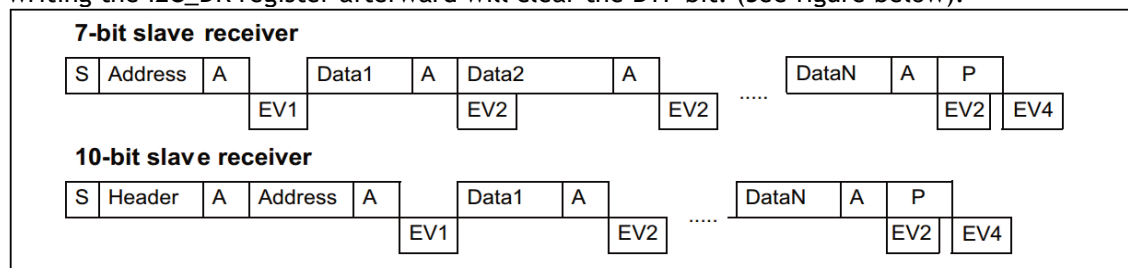
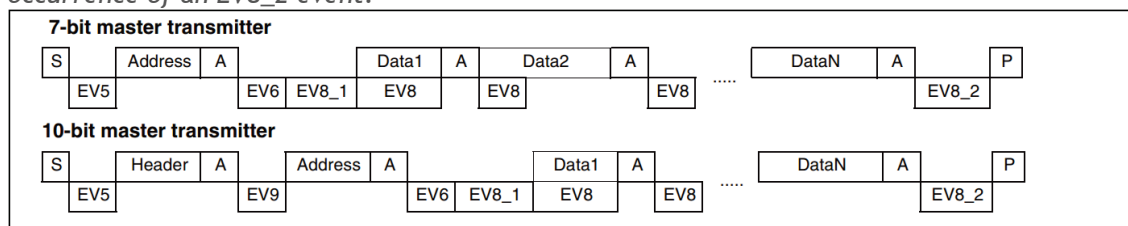
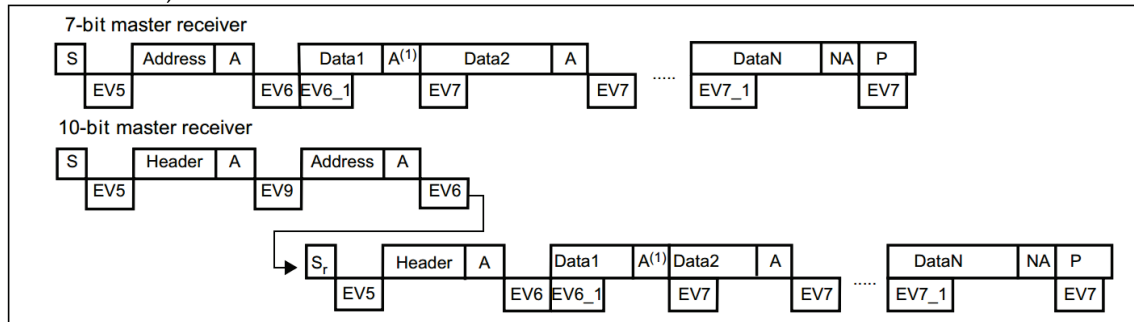

Figure244 Transmission Sequence Diagram from Receiver
Figure 245 Master Transmitter Transmission Sequence Diagram
Figure 246 Master Receiver Transmission Sequence Diagram
- The master device then waits to read the SR1 register, followed immediately by writing the slave address to the DR register (see EV5 of Figure 244 and Figure 245).
- The master device then waits to read the SR1 register before writing the second address byte to the DR register (see Figure 245 and Figure 246).
The master device then waits for one read of the SR1 register, followed by a read of the SR2 register (see Figure 245 and Figure 246).
- The master device then waits for one read of the SR1 register, followed by a read of the SR2 register (see Figure 245 and Figure 246).
The master device waits until TxE is cleared, (see EV8 of Figure 245). When an answer pulse is received.
After writing the last byte in the DR register, a stop condition is generated by setting the STOP bit (see EV8_2 of Figure 245), and then the I2C interface will automatically return to slave mode (M/S bit clear).
- Hardware sets RxNE=1 and generates an interrupt if the INEVFEN and ITBUFEN bits are set (see Figure 246 EV7 of the bookmark2040).